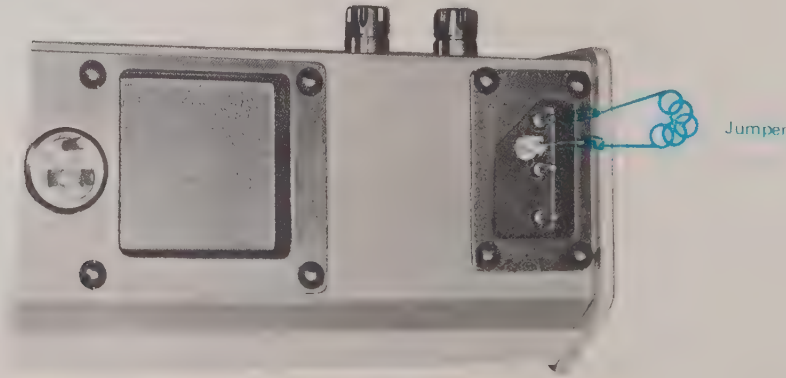

FIGURE 5.1 JUMPER PLACEMENT for SENSE FOOT TEST
5.10 The REMOVE SHORTING LINK LED may be checked by applying power to the Model 3113A from either an isolated power system or a grounded power system. Use a jumper to short the "J" shaped sense foot to the ground banana plug as shown in Figure 5.1. The REMOVE SHORTING LINK LED should illuminate.